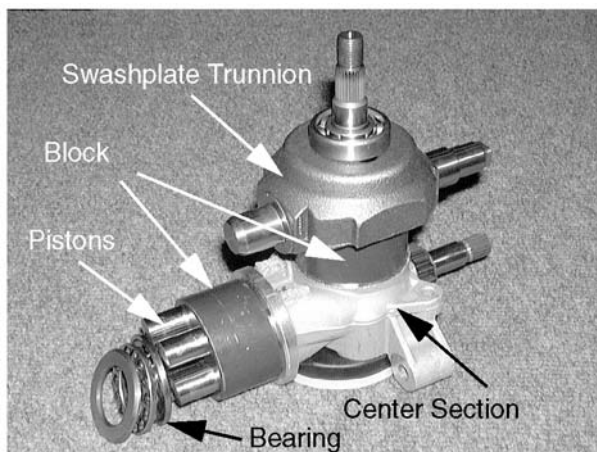

Figure 6-69.
1. Assemble the hydrostatic drive mechanism on a workbench, and make certain all of the components are clean and ready for installation. See Figure 6-69.